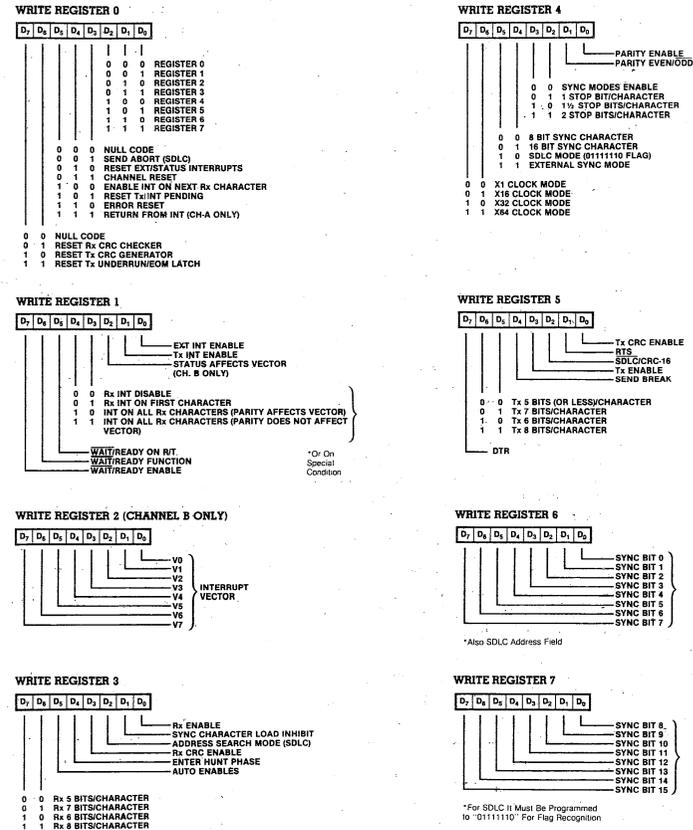

Figure 14. Write Register Bit Functions
**RTS $\bar{A}$ , RTS $\bar{B}$ .** Request To Send (outputs, active Low). When the RTS bit in Write Register 5 (Figure 14) is set, the RTS output goes Low. When the RTS bit is reset in the Asynchronous mode, the output goes High after the transmitter is empty. In Synchronous modes, the RTS pin strictly follows the state of the RTS bit. Both pins can be used as general-purpose outputs.
**Write Registers.** The SIO contains eight write registers for Channel B and seven write registers for Channel A (WR0-WR7 in Figure 14) that are programmed separately to configure the functional personality of the channels; WR2 contains the interrupt vector for both channels and is only in the Channel B register set. With the exception of WR0, programming the write registers requires two bytes. The first byte is to WR0 and contains three bits (D0-D2) that point to the selected register; the second byte is the actual control word that is written into the register to configure the SIO.